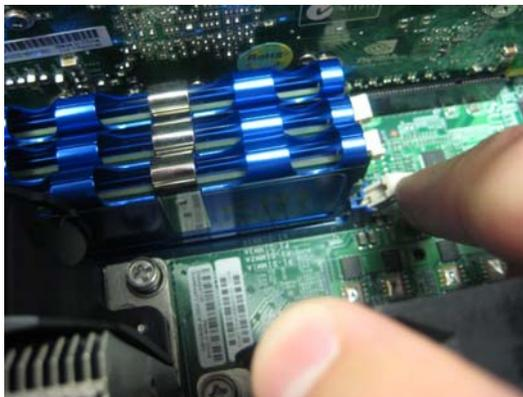
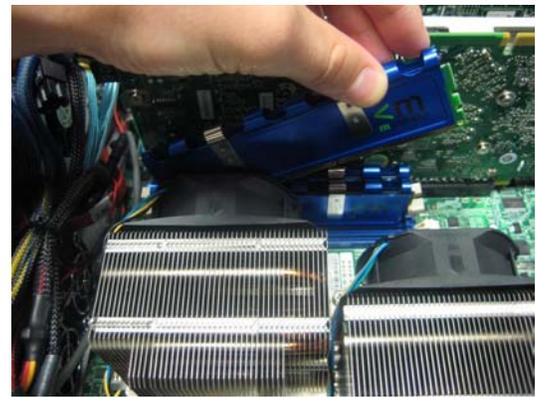

Figure 3-46
Figure 3-47
- 2) In order to remove and replace a memory stick, gently press down-and-out on the two plastic “rabbit-ears” at either side of the stick which will cause it to pop out (Figure 3-46), and then remove the stick from the system (Figure 3-47).